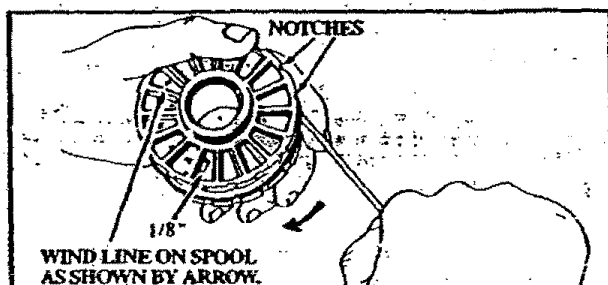

Figure 24
- Insert 1/16" to 1/8" of the end of the Line through one of the holes in the rim of the Spool. Allow no more than 1/8" Line to extend beyond the rim to avoid interference with line release action. Figure 24.
- Wind the Line onto the Spool in the direction shown by the arrow on the Spool and as tightly and evenly as possible so the Line will feed properly. Figure 24.